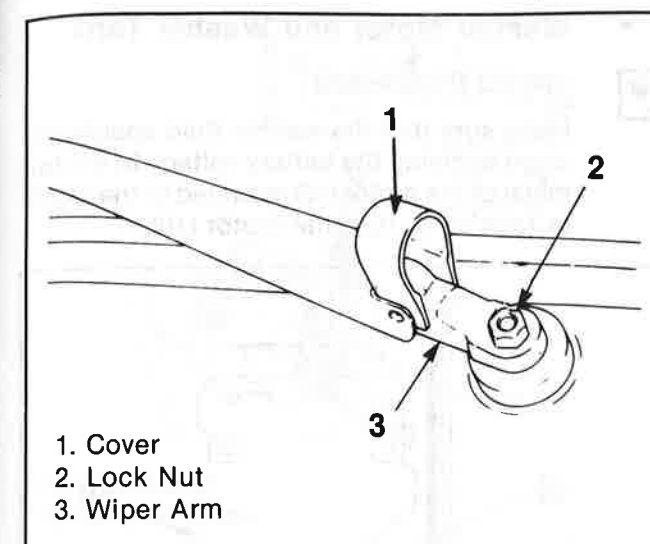
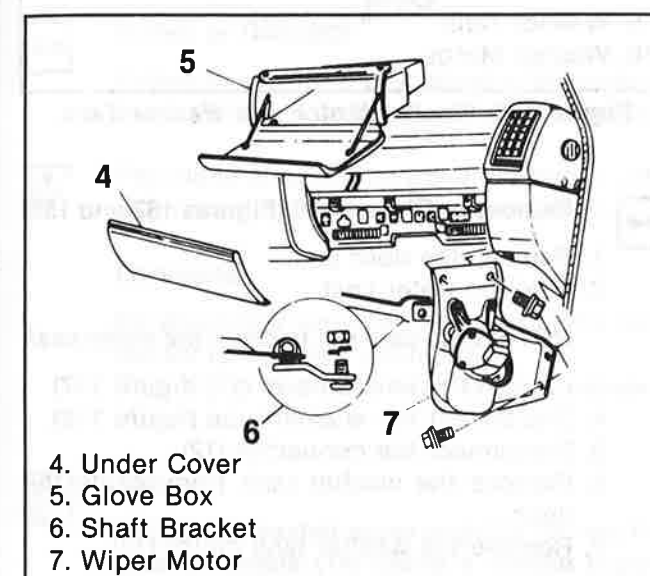

Figure 149. Wiper Motor and Linkage Removal 1
Figure 150. Wiper Motor and Linkage Removal 2
Remove or Disconnect (Figures 149, 150 and 151)
1. Light up a cover (1) (figure 149).
2. Loosen the lock nut (2).
3. Remove the wiper arm (3).
5. Remove the under cover center (4) (figure 150).
6. Remove the glove box (5).
7. Remove the shaft bracket (6).
8. Remove the wiper motor (7).
Wiper Arm (Figure 149)